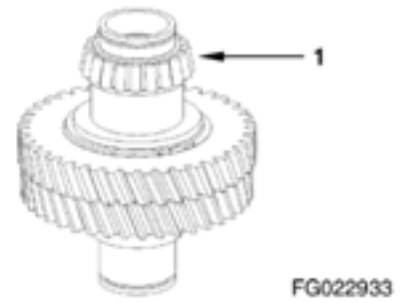

Figure 346
- Mount bearing inner ring (1, Figure 346) until contact is obtained.